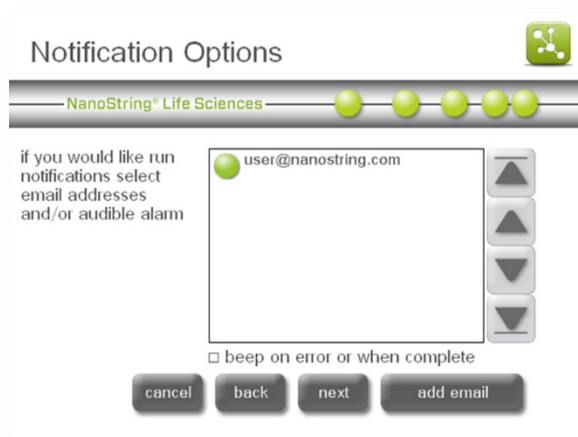

Figure 31: The 'Notification Options' screen.
14. The 'Notification Options' screen will appear (Figure 31).